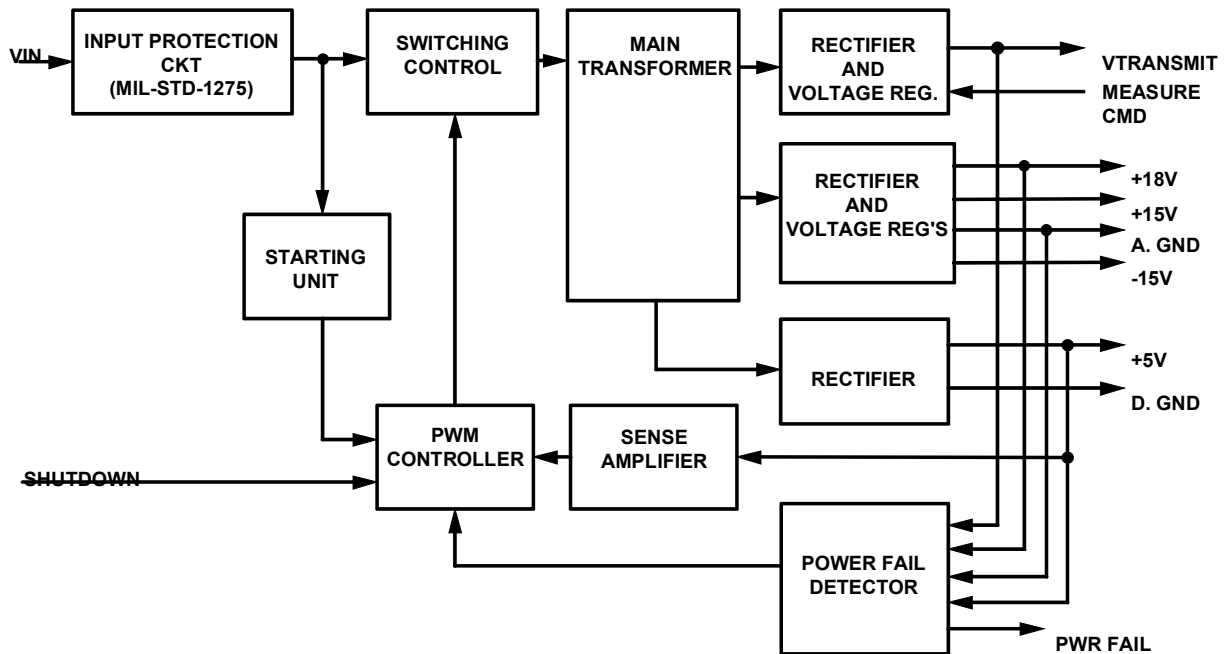

Figure 1-5. Power Supply Module Simplified Block Diagram
**1.19.4 Power Supply Module.** For the following description, refer to Figure 1-5. The power supply generates +18, +5, +15 and -15 , and predetermined 9-11 VDC operating voltages for the transceiver internal circuitry. The topology of the power supply is a current mode, forward converter with input and output coupling. Switching frequency is 400 kHz. The RF signal transmission is controlled by the MVP through the. MEASURE CMD (on/off) signal.